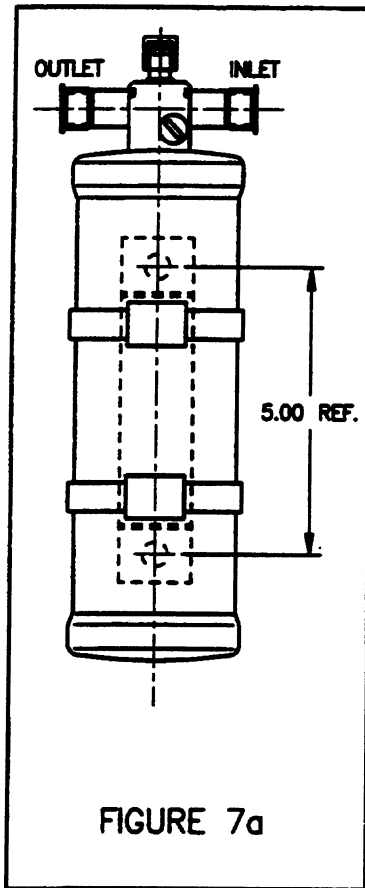

FIGURE 7a
E. RECEIVER/DRIER INSTALLATION FOR ALL MODELS (See Figures 7A and 7B.)
- 1) Position the receiver/drier in the mounting bracket and tighten the bracket clamps securing the rec./drier in the mount as shown in Figure 7a.
- 3) Mount rec./drier to mounting holes on left wall of condenser compartment using (2) M8 x 20mm long screws, washers, and lock washers.